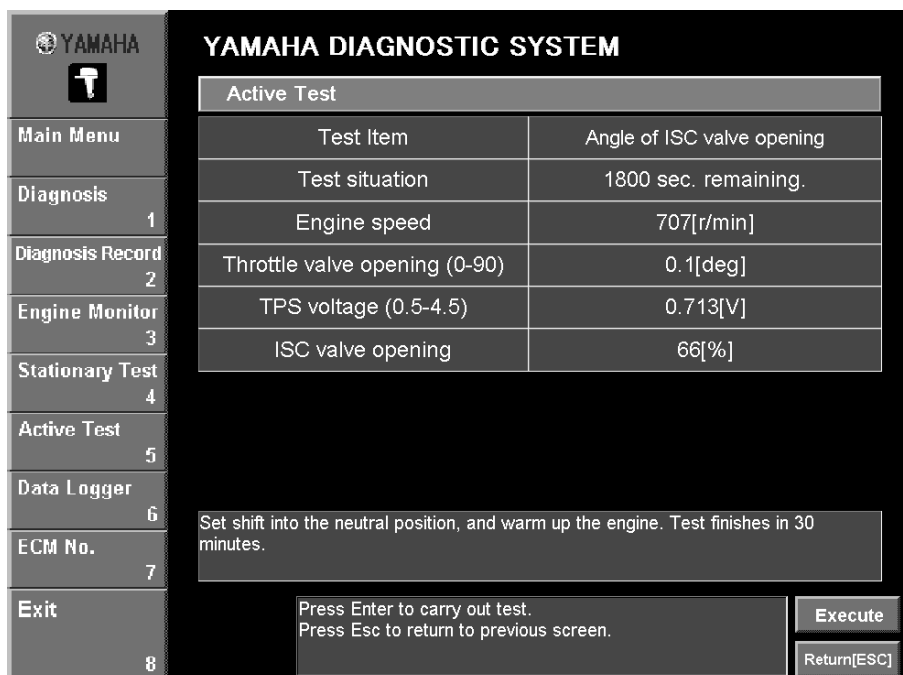

Fig. 50
2. Click the **Execute** button or press the Enter key on your keyboard. (Fig. 50)